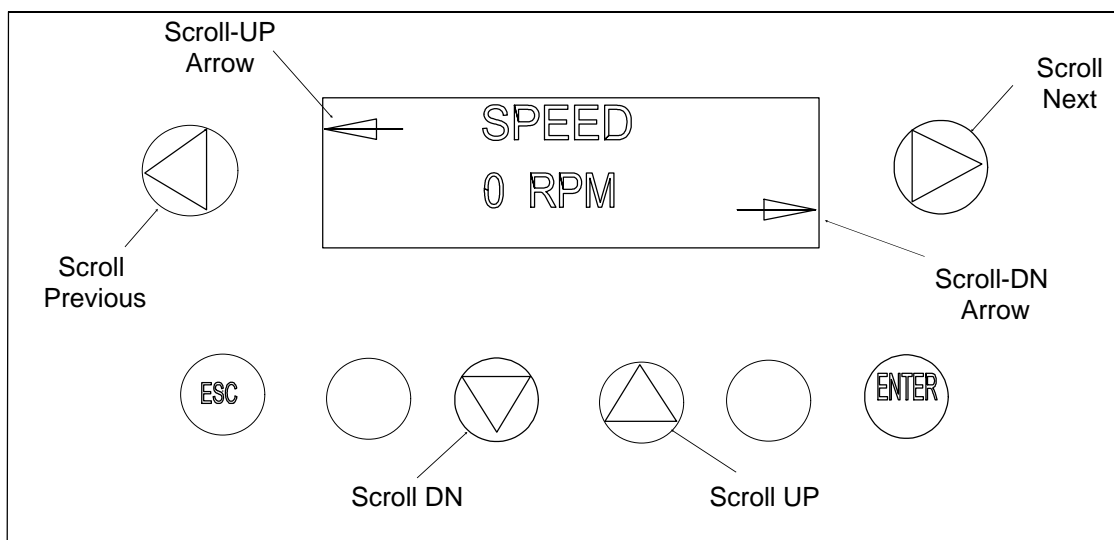

Figure 5
5.6.3 To scroll through the pages of the display, the scroll-up or scroll-down arrows must be flashing in the appropriate direction. To scroll to the next page, press either the *SCROLL-UP* or *SCROLL-DN* key to set the arrow in the display to the flashing mode. Once the arrow is in the flashing mode, press the scroll next or scroll previous key to step through the 'pages'. See Figure 5.